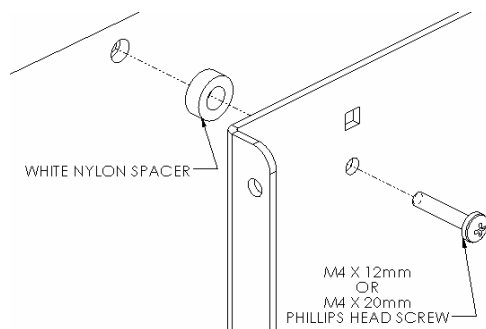
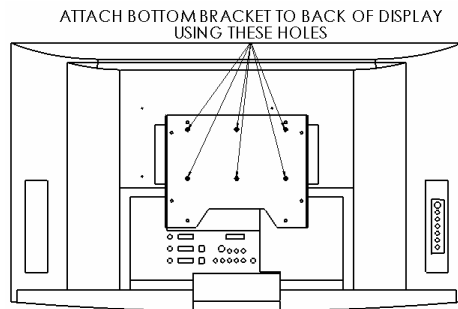

Figure 2
Figure 3
- Attach bottom bracket to back of display using the M4 x 12mm (black) or M4 x 20mm (silver) screws depending on maximum screws depth of screen (see Figure 2 & Figure 3). If possible, use the 20mm screws. If the screen has shallow mounting holes, the 12mm screws should be used in order to prevent damaging the inside of the screen. Do not over tighten screws.